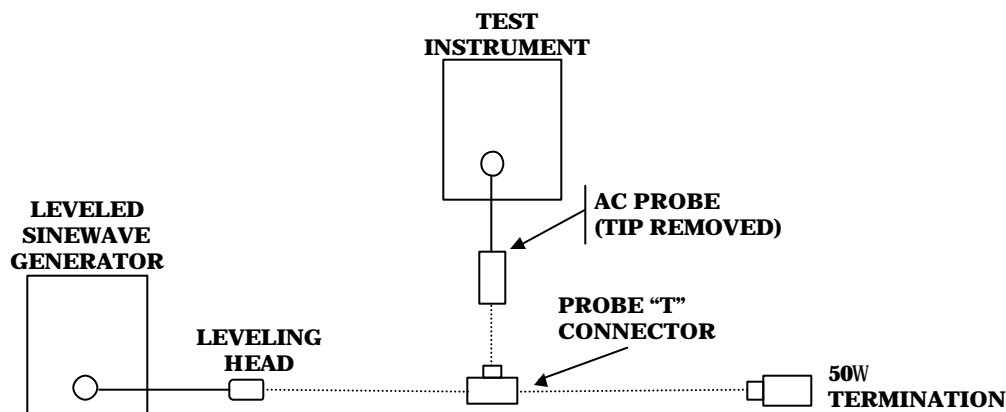

Figure 2. Frequency response - equipment setup.
- (1) Set **RANGE** switch to **RX1 1V**.
- (2) Connect **AC** probe and **COMMON** leads together and adjust **AC ZERO** for 0 indication on TI.
- (3) Connect equipment as shown in figure 2.
- (4) Adjust leveled sinewave generator for 400 Hz and a .3 V ac indication on TI.